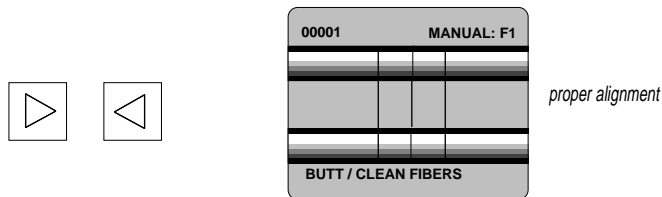

Figure 37
5.11 In high magnification, use the Fiber Position keys to bring the left and right fibers together until their cleaved faces just touch under the center line (Figure 37).